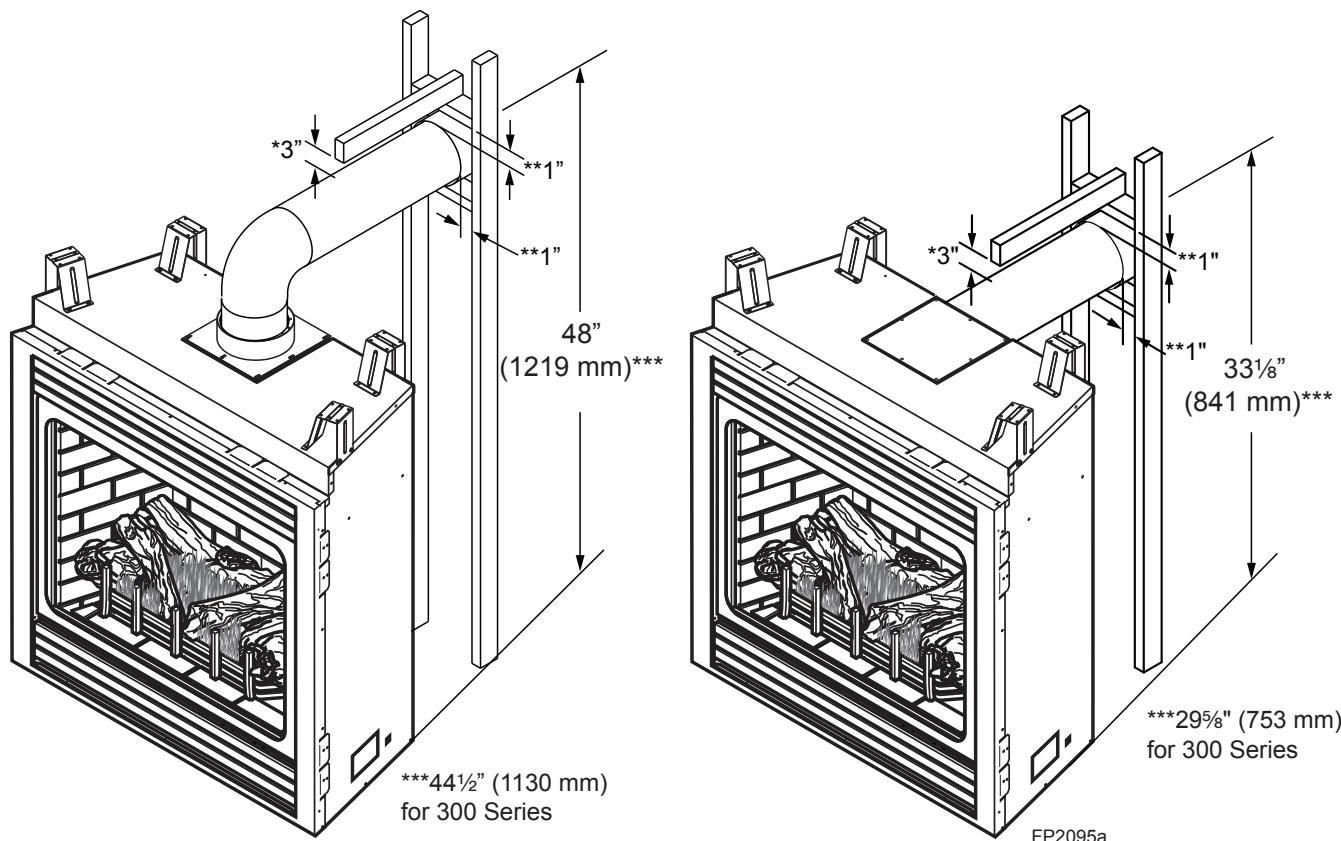

Figure 15 -
- The maximum horizontal distance between the rear of the appliance (or end of the transition elbow in a corner application) and the outside face of the rear wall is 20" (508 mm). *Figure 15*